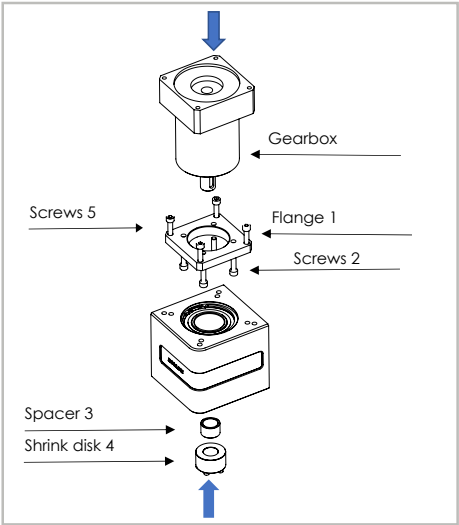

Fig. 18
- Place the actuator as shown in the figure (Fig.18) with the gear assembly component facing upwards.
- Assemble the flange (1) on the gear and tighten the screws (2) until the torques shown in Table 2 are reached.
- Place the gearbox complete with flange on the actuator. Tighten the fixing screws (5) without locking them.
- Insert the spacer (3) from below and then insert the shrink disk (4) without locking it.
- Loosen and then tighten the fixing screws (5) until the torques shown in Table 2 are reached.